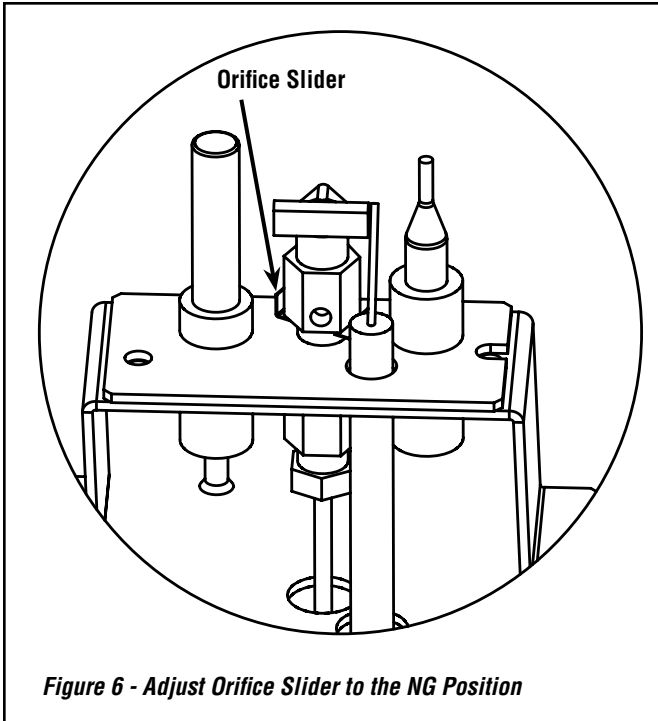

Figure 6 - Adjust Orifice Slider to the NG Position
Step 7. Slide the pilot orifice into the NG position by pushing it toward the opposite side of the pilot stem. The top side of the orifice slider should appear silver and read NG. The gas supply is now lined up with the NG orifice. See **Figure 6**.